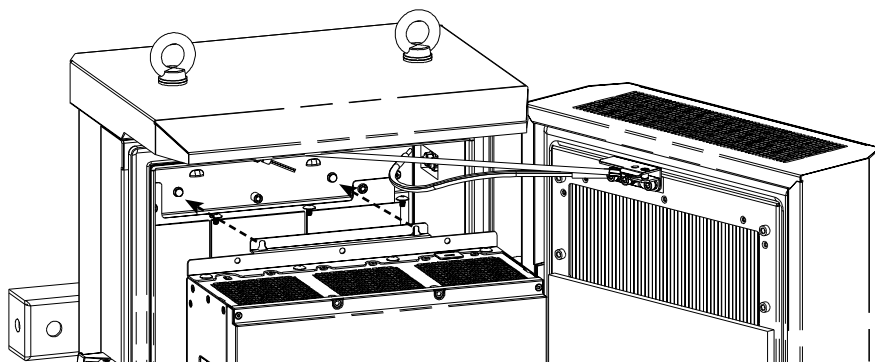

Figure 2-6. Location of Hanging Inserts
9. Install the SPD and connect the grounding and power cables to it (refer to Figure 2-6).